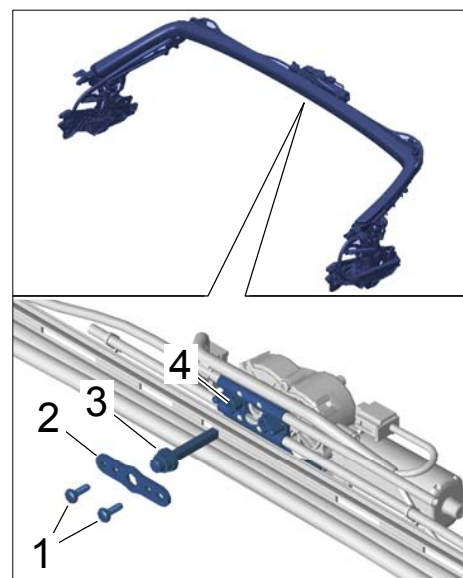

Figure 17
- 12.2 Insert pinion shaft $\Rightarrow$ Figure 17 -3- as far as it will go into the drive tubing $\Rightarrow$ Figure 17 -4-.
- 12.3 Position drive plate $\Rightarrow$ Figure 17 -2- on the tubing and secure with the fastening screws $\Rightarrow$ Figure 17 -1-.